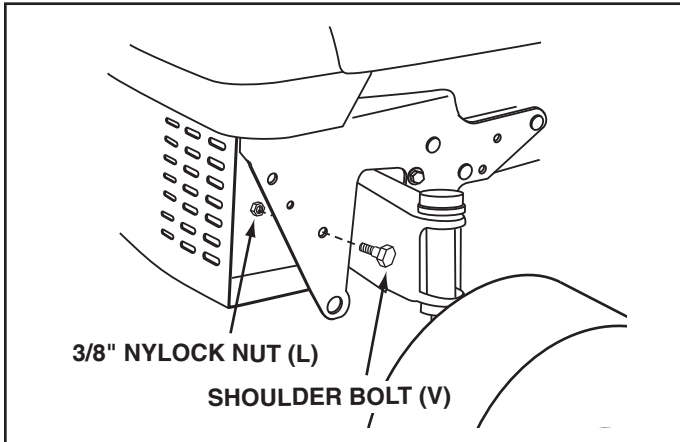

FIGURE 13
STEP 3: (SEE FIGURE 13)
- Assemble a shoulder bolt (V) and a 3/8" nylock nut (L) to the front bracket on each side of the tractor, unless a shoulder bolt is already present.